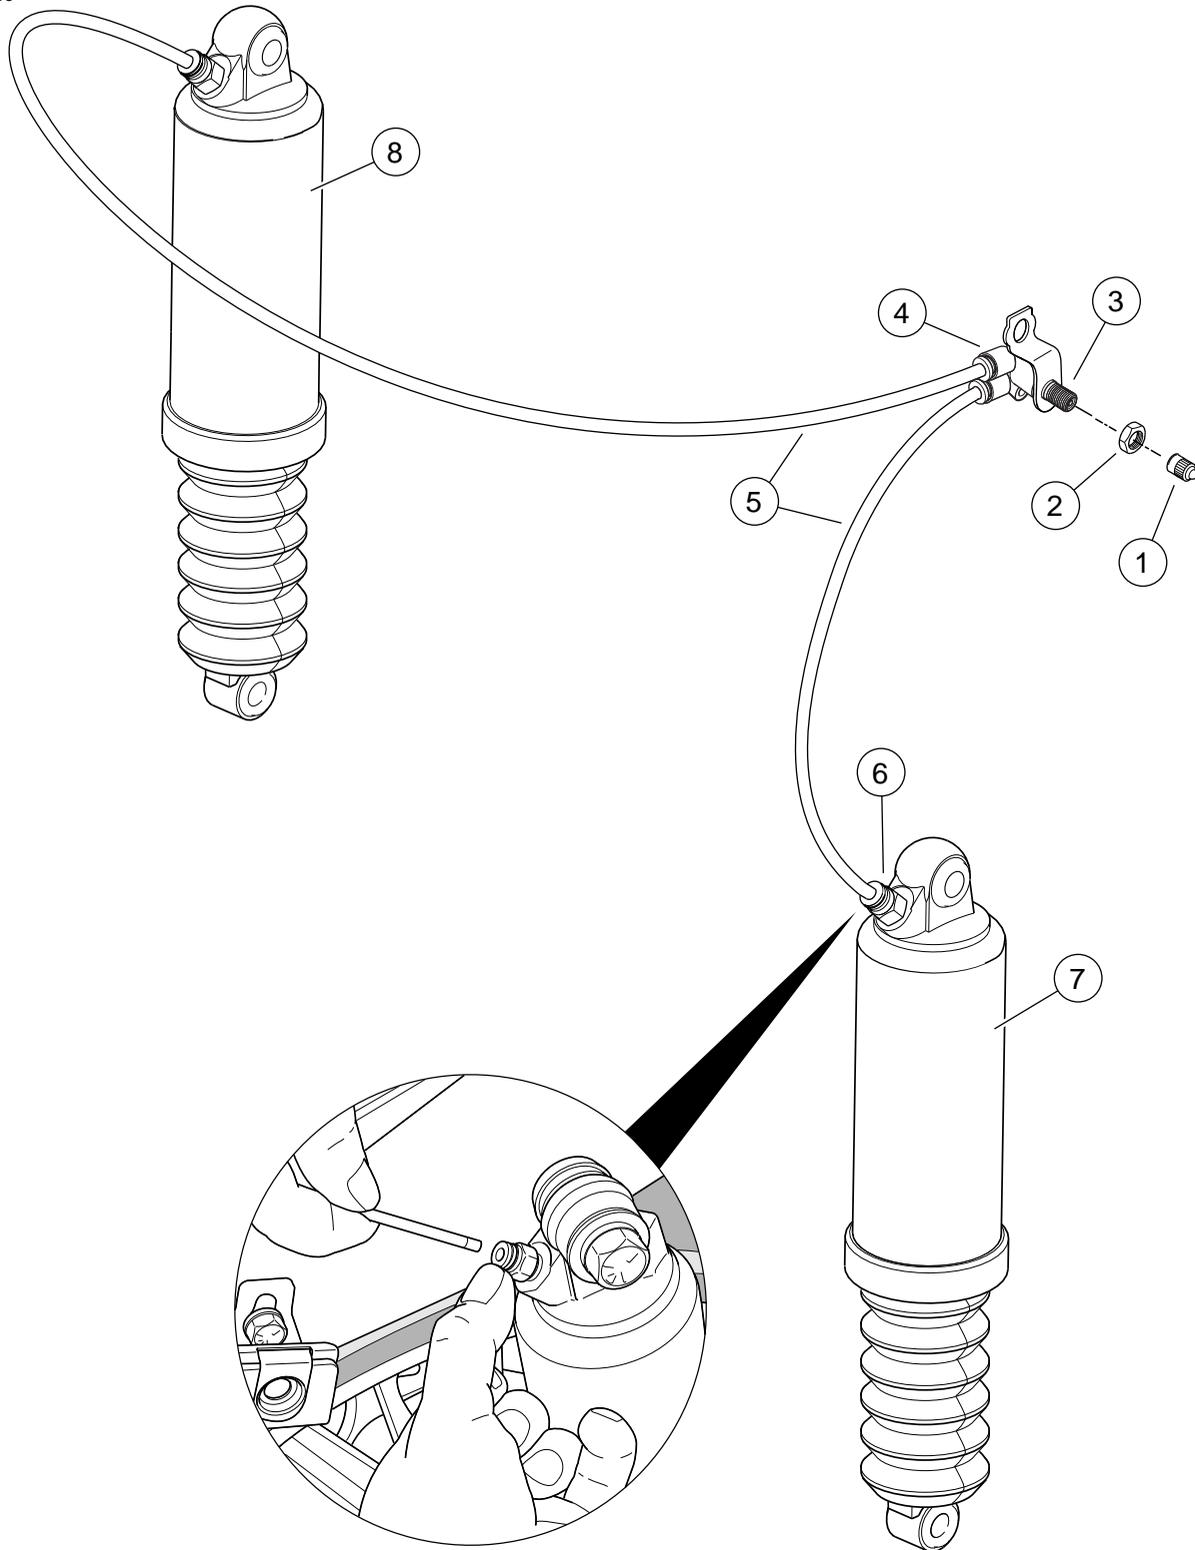

Figure 2-74. Rear Air Suspension System
- b. Depress collar on compression fitting and pull out air tube. See inset of Figure 2-74. Inspect the tube end for burrs or damage. If either condition is observed, snip off the end of the tube and insert it back into the compression fitting until it bottoms. Gently tug on tube to verify that it is locked in place.
- g. Remove hex nut from valve head. See Figure 2-74.
- c. Depress collars on air inlet tee and pull out air tubes. Remove opposite end of tubes from compression fittings. See Figure 2-74.